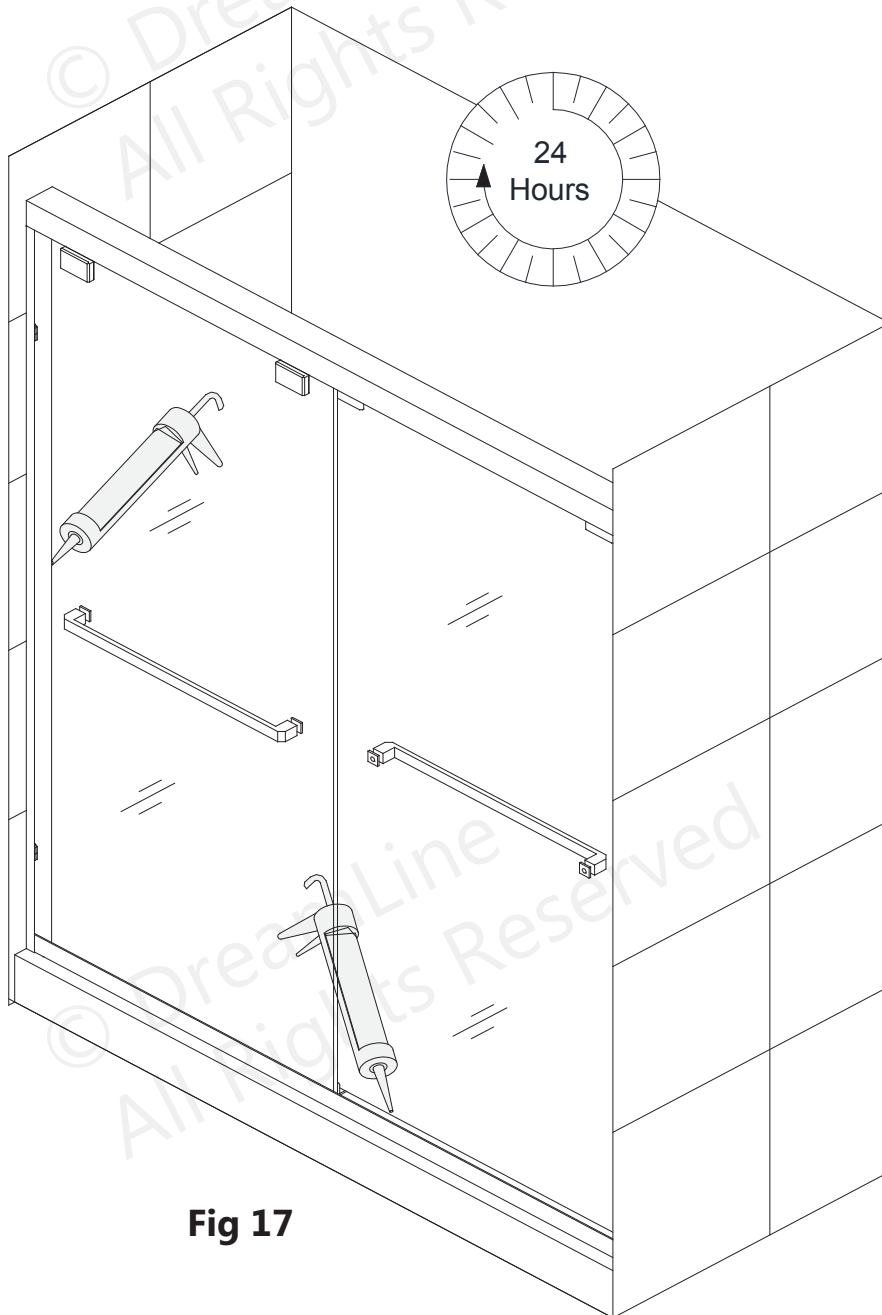

Fig 17
17. Apply good quality mildew-resistant silicone to the entire interior perimeter where the wall profiles meet the wall and along the bottom guide rail and threshold. **(Fig 17)**